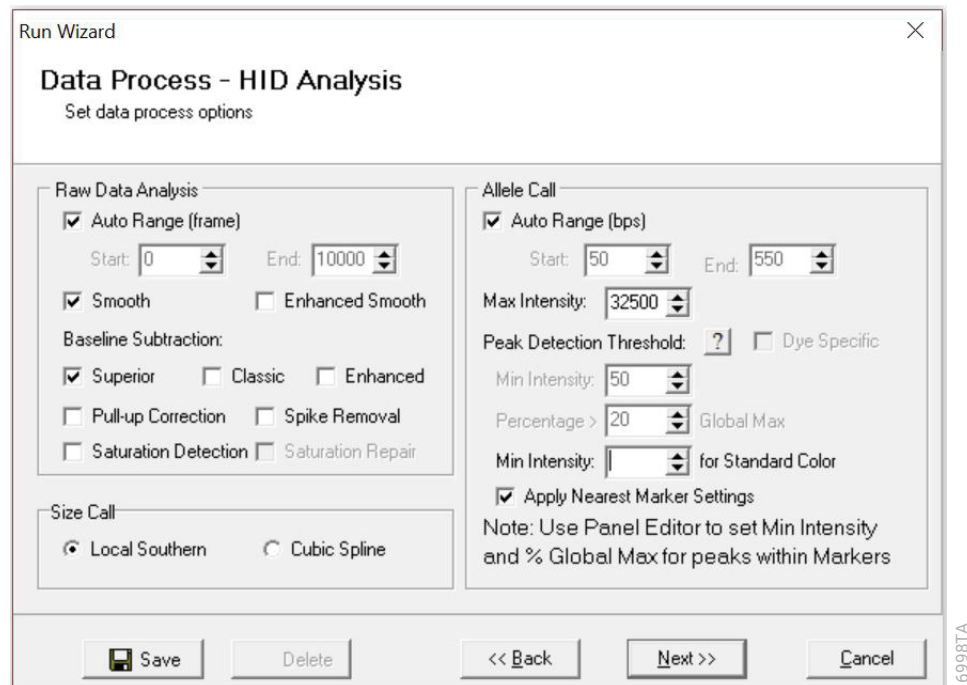

Figure 24. The 'Data Process' window for an analysis method.
10. The 'Data Process – HID Analysis' window will appear (Figure 24). For the Raw Data Analysis, we recommend using Auto Range, Smooth, Superior Baseline Subtraction and Local Southern for the Size Call.